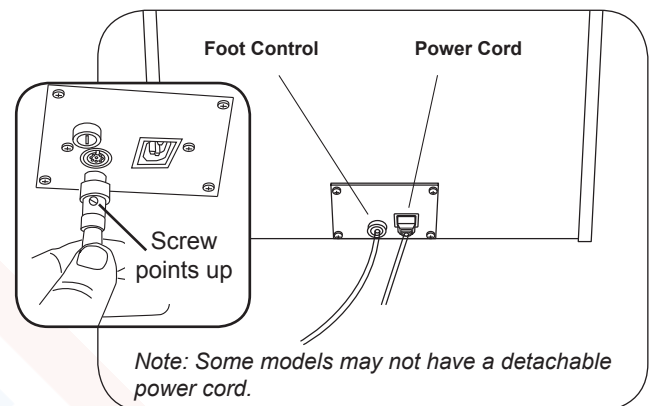
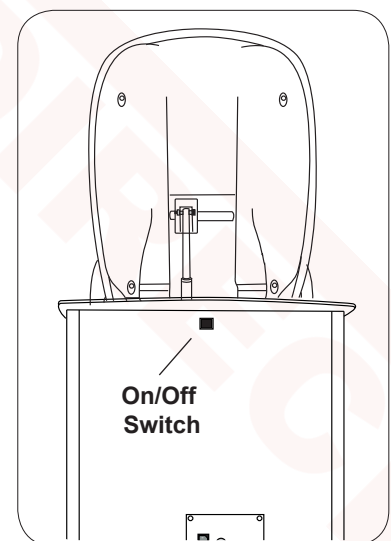

Figure 5. Power Cord and Foot Control Plug-ins
Figure 6. Motion On/Off Switch
- Insert the foot control cord into the receptacle at the bottom of the rear panel (Figure 5). Make sure the pins are properly orientated and the plug is fully seated. Turn the locking ring clockwise to secure the plug to the table.
- Plug the female end of the power cord into the receptacle at the bottom of the rear panel (Figure 5). Plug the male end of the power cord into a 115 Volt grounded receptacle. Make sure the black Motion On/Off Switch at the back of the table is on (Figure 6).